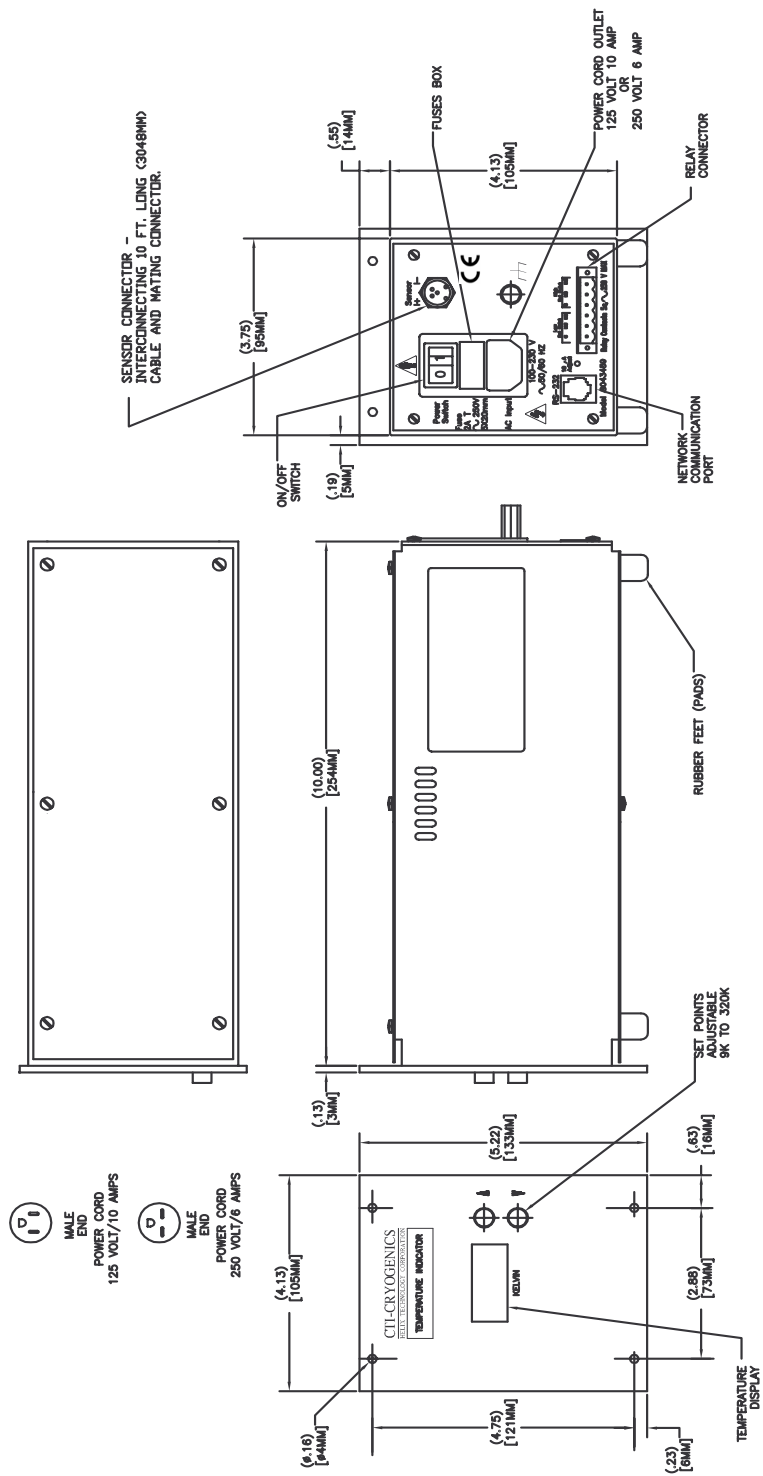

Figure 1: Cryo-Torr Temperature Indicator and Dimensions
The Cryo-Torr Vacuum-Pump Temperature Indicator, part number 8043459G001 shown in Figure 1 on the following page, is used with Cryo-Torr high-vacuum pumps, to monitor cryopump operating temperatures. In cryopumps provided with a silicon diode sensor, the indicator is easily connected to the cryopump with an electrical cable. The digital readout is in Kelvin (K), with a system range from 9K to 320K. The indicator has two set points that are adjustable over this range. When the vacuum pump temperature reaches either setpoint, electrical contacts in the in-line 6-pin male connector on the rear panel can be used to activate indicators or to operate solenoid valves for controlling temperature-related functions. A pair of switches on the front panel permits momentary display of the two setpoints.